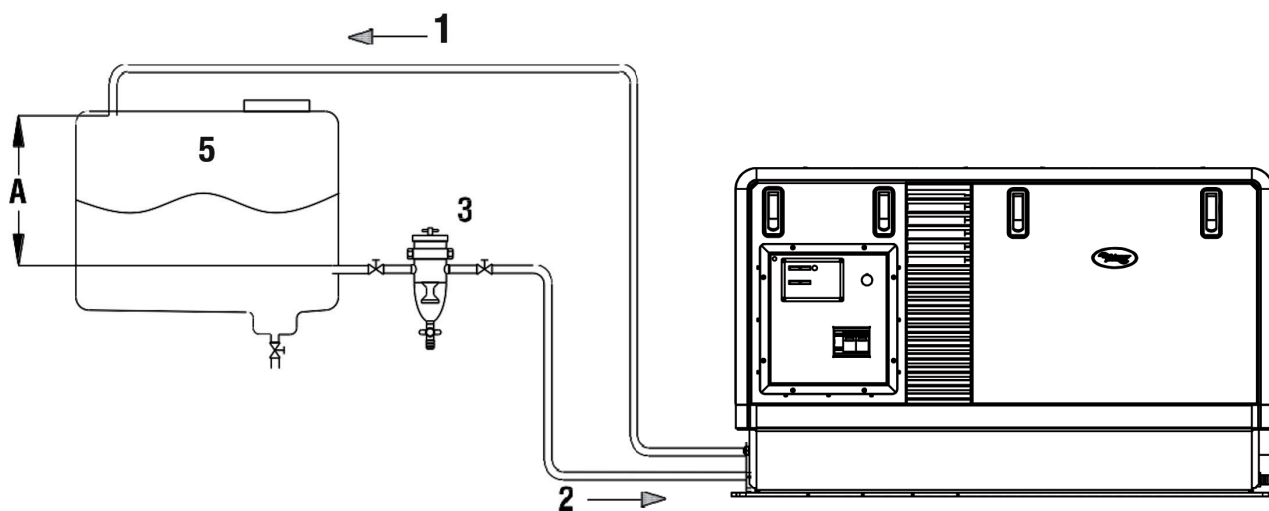
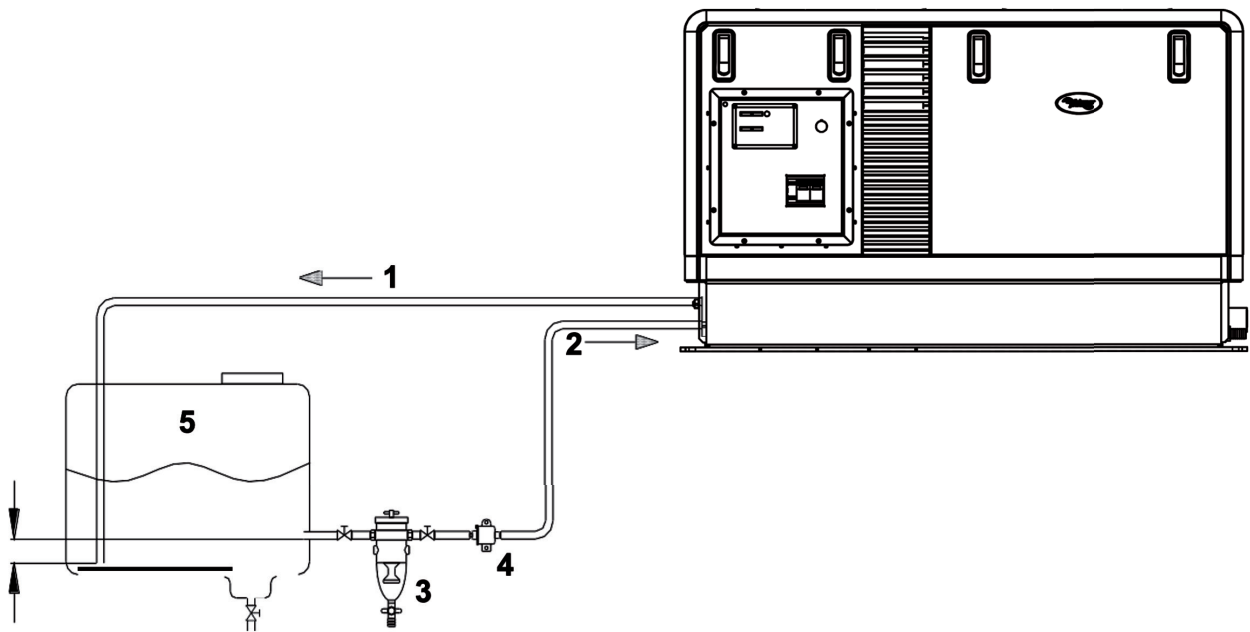

Figure 3: Fuel supply
Figure 4: Fuel supply
When the return is on the top- in case of a leakage the return line cannot overflow because of siphoning. One will only need a fuel cock in the fuel supply line (see figure 3). When the tank is below the generating set we recommend ending the return line on the bottom of the tank (A) below the inlet of the supply line (see figure 4)